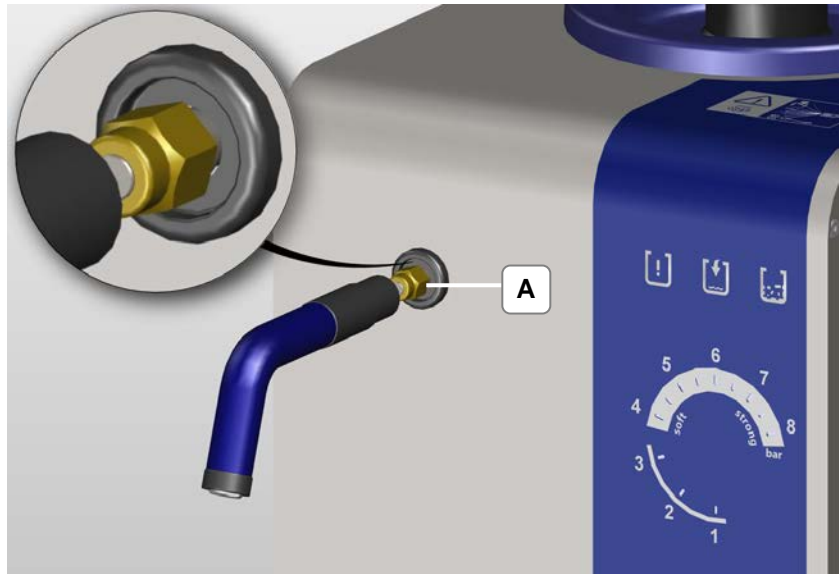

Figure 4.2.1: Union nut with dummy plugs
1. Remove the dummy plugs by unscrewing the nut (A) with an open-ended spanner SW 12 mm (Figure 4.2.1).